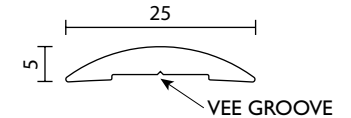

FIG.2
STEP 2 Machine cut threshold plate to full width between jambs or door stops. **(FIG.2)**